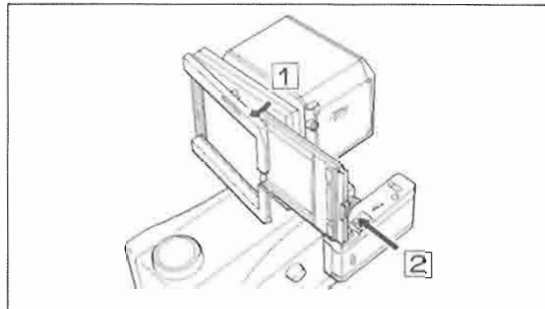

Fig. 29
2) Film holder installation (Fig. 29)